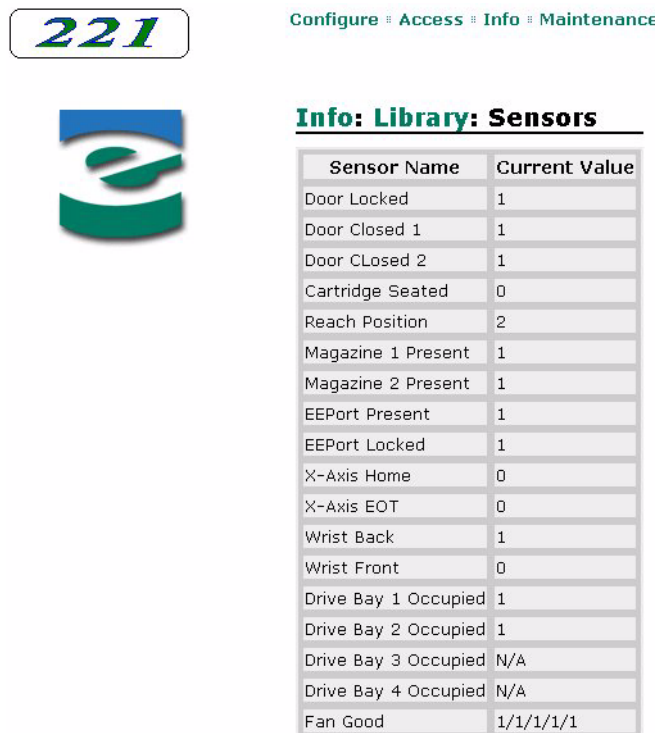

Figure 6-31 Remote management utility – Library Sensors page
3. Click on Sensors. A page similar to Figure 6-31 appears.